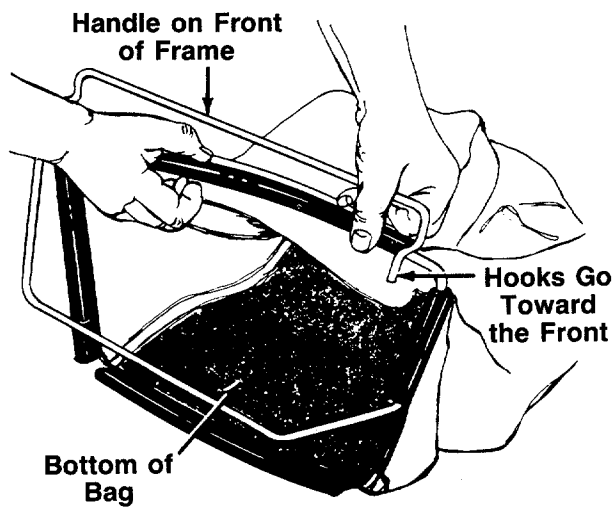

FIGURE 10.
- Place bag over frame (black plastic side is the bottom of bag). Handle on frame goes to the top of bag. Hooks go toward the front. See figure 10.
- Secure bag to frame by slipping plastic channels on bag over frame. See figure 10.